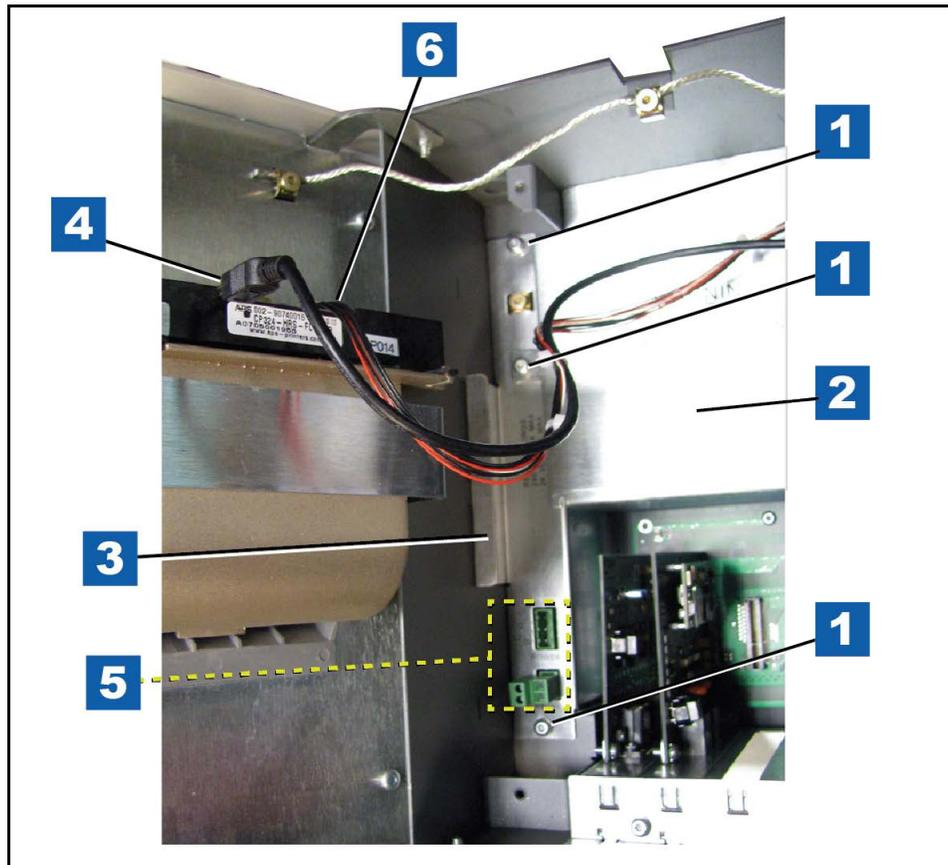
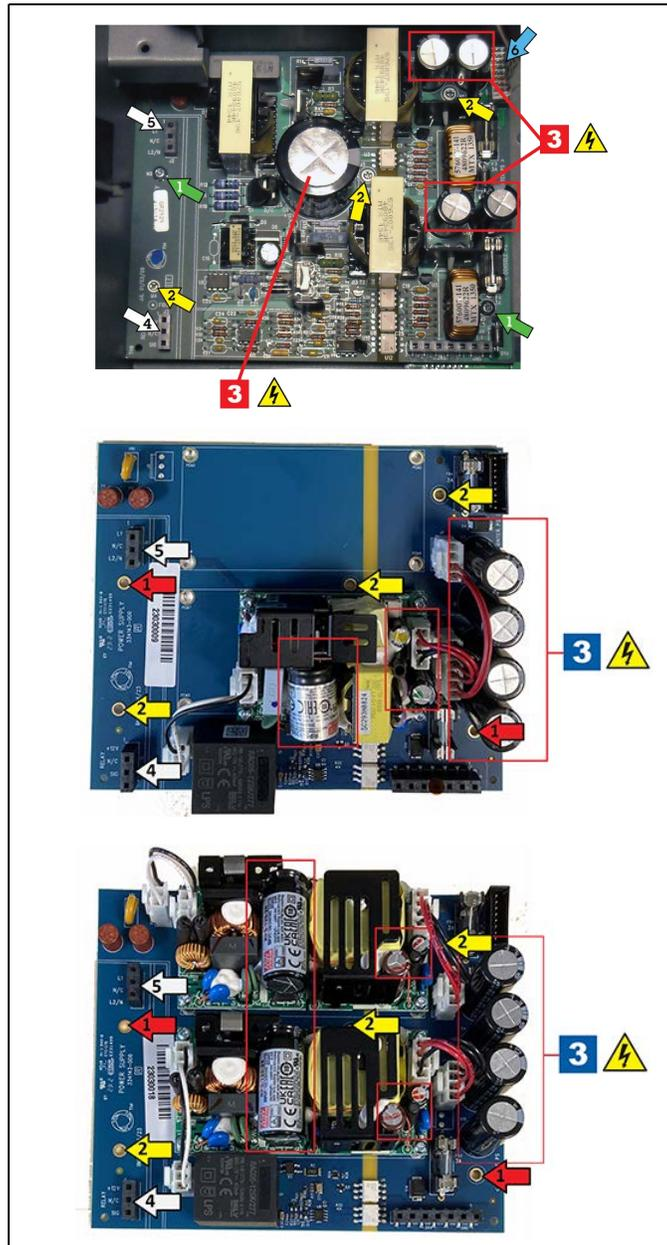
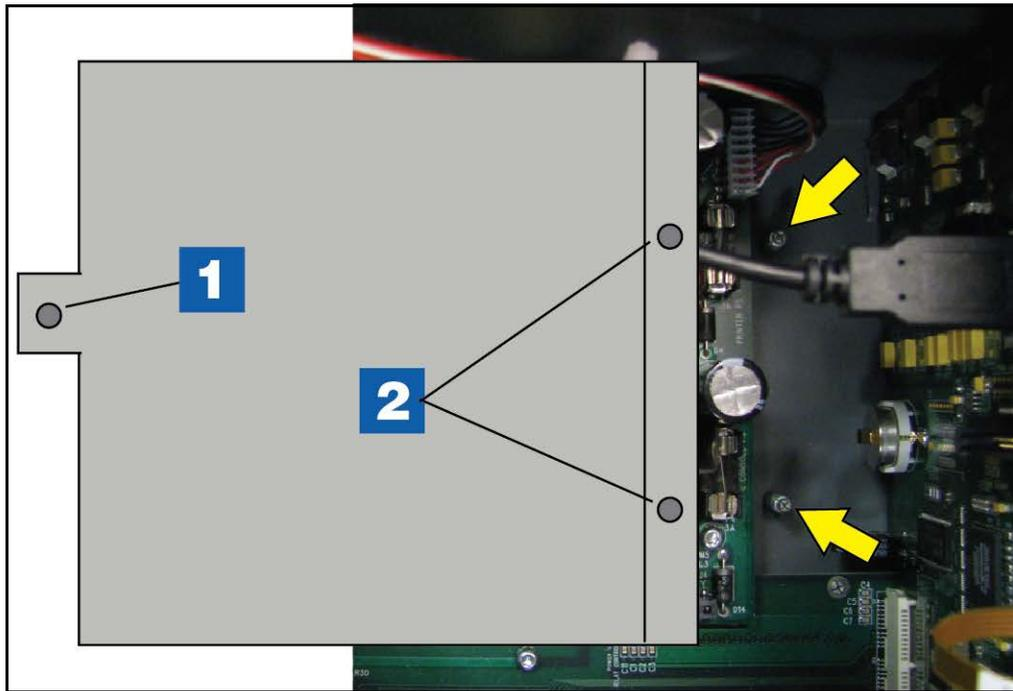

Figure 10. Removing AC Input Filter
Figure 11. Removing One of the Three Possible Power Supply Board Configurations
Figure 12. Replacing Power Supply shield Over Power Supply board
5. If a printer is installed, unplug the two printer cable plugs from the back of the printer (see item 4, Figure 10).
2. Unplug the AC power and relay connectors from the AC Input Filter assembly (item 5, Figure 10), then remove the three T-15 screws in the AC Input Filter (item 1 in Figure 10).
3. Lift the Power Supply shield up to disengage the two retention snap pins in its right side flange and remove it from the console (item 2 in Figure 12).
4. Grasp the AC Input Filter handle (see item 3 in Figure 10) and slowly pull it away from the Power Supply board until the two AC Input Filter plugs disconnect from the Power Supply board connectors (items 4 and 5, Figure 11). Remove the two T-15 screws that secure the AC Input board to the AC input board bracket. Place fingers under the AC Input board near each of the two retention pins and pull the board out, off of the pins.
Legend For Figure 10
1. Remove the two T15 screws (item 1 in Figure 11) that secure the Power Supply board to the console housing.
**Shock hazard. Do not touch underside of Power Supply board beneath the capacitors (identified by item 3 in Figure 11).**
2. Place a finger under the edges of the Power Supply board near the upper right and lower left edges of the board and lift the board up until it is free of the three snap pins (item 2 in Figure 11).
3. Disconnect the printer power cable from the printer door group. (item 6, Figure 10).
4. While securing the backplane board, carefully pull the board out of the console by its edges since there is still undischarged high voltage in the item 3 capacitors.
5. Get the new Power Supply board and attach the old printer power supply cable to its connector (J1) in the upper right corner of the replacement Power Supply board (item 6, Figure 11).
6. Lower the Power Supply board into the console, lining up the three holes in the board (see item 2 in Figure 11) with the three retention pins in the back of the console housing and with the connector on the backplane board. Push down on the Power Supply board until the pins snap into holes.
7. Install the two T15 screws (item 1 in Figure 11) and tighten them.
8. Notice that there are two male connectors on the bottom of the AC Input Filter board that plug into two female connectors on the Power Supply board (items 4 and 5, Figure 11). With the handle (item 3 of Figure 10) of the AC Input Filter against the left side of the console housing, line up the two AC Input Filter bottom connectors over the two female connectors on the Power Supply board and push down on the AC Input Filter until the connectors are firmly seated.
9. Reattach the Relay and AC power plugs to their respective AC Input Filter connectors (item 5, Figure 10). Place the Power Supply shield (item 2 in Figure 10) over the Power Supply board and lower it down onto its two retention pins (see item 2 in Figure 12) and snap it into place.
10. Install the three T15 screws in the AC Input Filter (see item 1 in Figure 10).
Legend For Figure 11
Legend For Figure 12